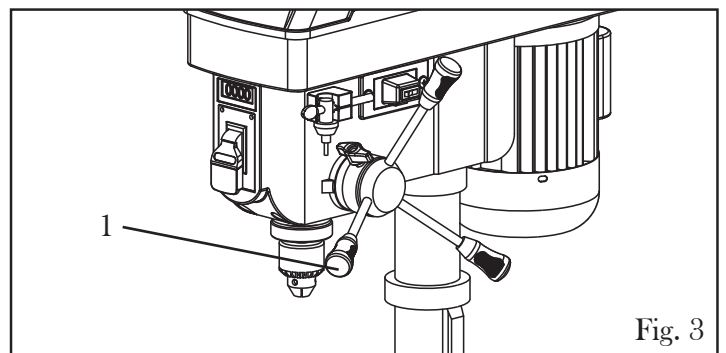

Fig. 3
4. Turn the feed handles on the drill press (Fig. 3 - 1) to check if the stop fence will interfere with the handles. **TIP:** One or two of the feed handles may be removed if the stop fence is in the way of the feed handle's travel.